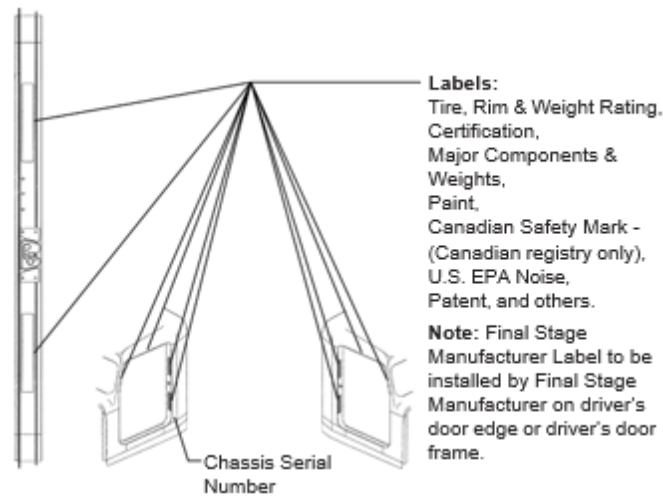

Figure 23 VIN Label Locations
The model year (4) is designated by an alphanumeric code in the tenth character position in the VIN. See **Table 2** and **Figure 23**.
The VIN is marked on the Incomplete Vehicle Certification Label (on trucks). It is located either on the driver’s door edge or door frame. See **Figure 23**.
Vehicle Identification Labels are located on the driver's side door edge or on either the driver's or passenger's side door frames. See Figure 23 Labels include Vehicle Certification, Components and Weights, Tire/Rim and Weight Rating Data, Noise Emissions, and Paint Identification. Quantity and location of labels may differ based on Complete/Incomplete vehicle, and Single/Dual certification.